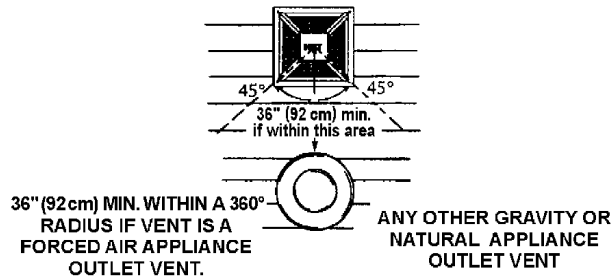

FIGURE 7.
- 36" minimum from any outlet vents when directly below or 45° to either side of center line. See Figure 7.
- 36" minimum in all directions from any other forced air appliance outlet vent. See Figure 7.